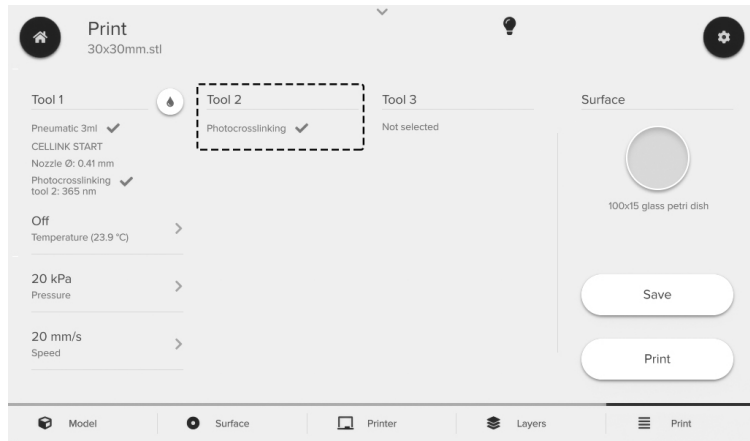

Figure 10: Verify the Photocuring Toolhead is active.
8. Select the photocrosslinking source on the right. The photocrosslinking modules can also be selected in this dropdown menu (Figure 10).
11. Ensure the Photocuring Toolhead is active in the Print submenu (Figure 10).